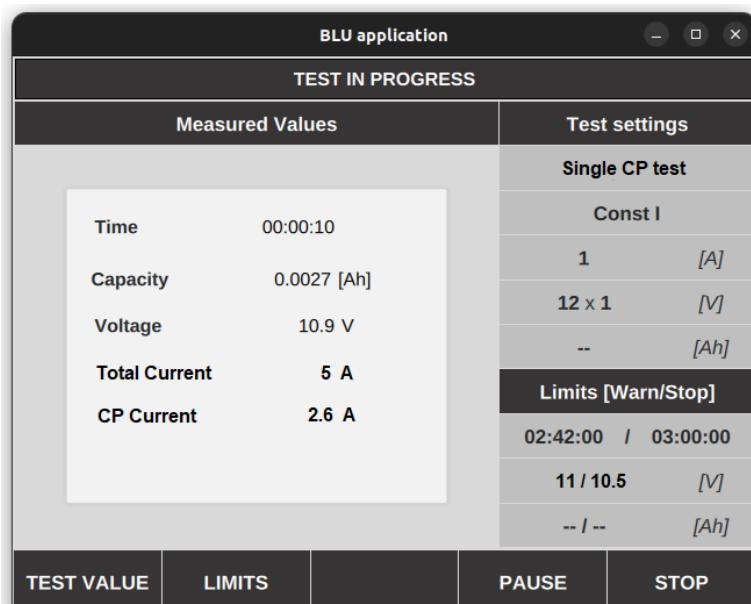

Figure 4-7: Test screen – CP Load Current
1. Numerical parameters (visible on Figure 4-7)
- Total Current (5 [A] on the Figure 4-7) – selected discharge current